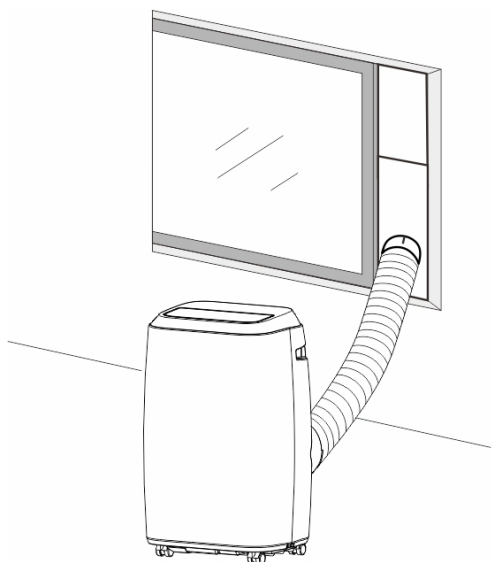
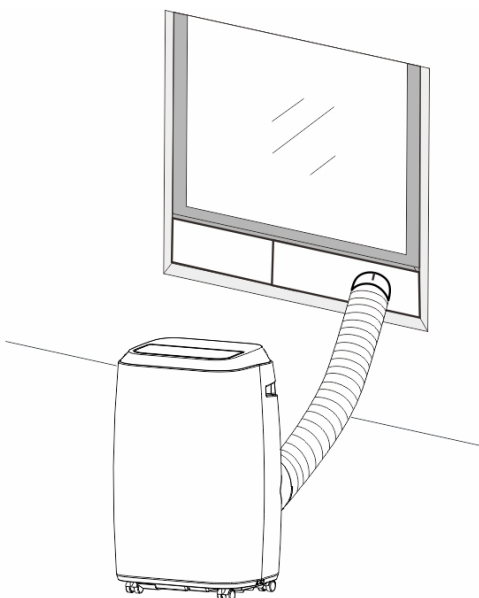

Fig.5
Fig.5a
- 2) As shown in Fig.5 and Fig.5a, install the exhaust hose, and adjust the window position.